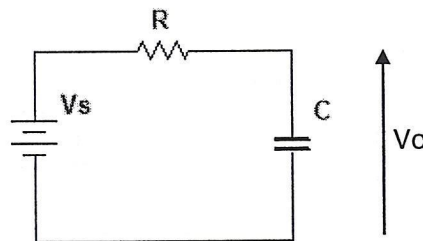

Figure 3
- Derive the transfer function of the RC circuit shown in figure 3, assuming $V_s = V_m \cos(\omega t)$. V_o - Voltage across capacitor (7 Marks)